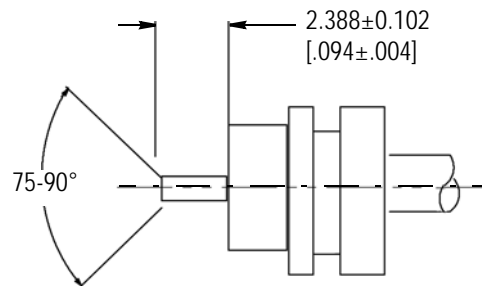

Figure 8
13. Trim to length, as shown in Figure 8.
14. File the blunt end to a 75- to 90-degree cone. See Figure 8.